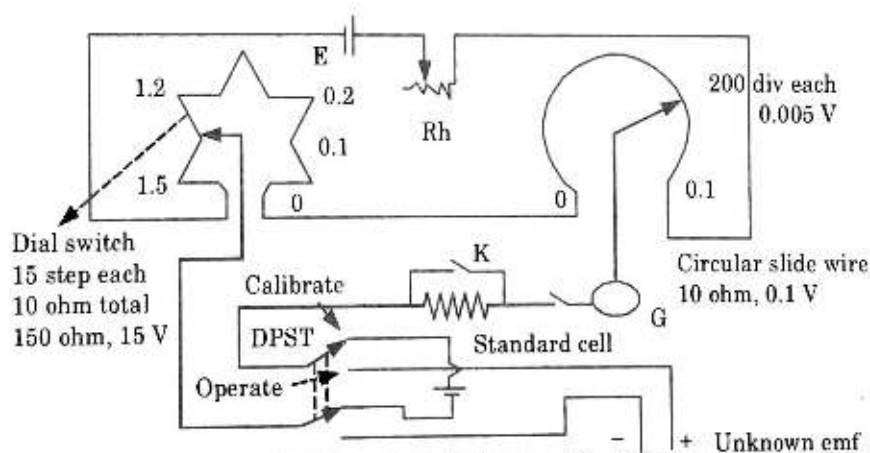

Fig. 2.23.1. Laboratory DC potentiometer.
2. In Fig. 2.23.1, there is one dial resistor with 15 steps, each having a precision resistor of $10\ \Omega$ total $150\ \Omega$ and 1.5 volt.